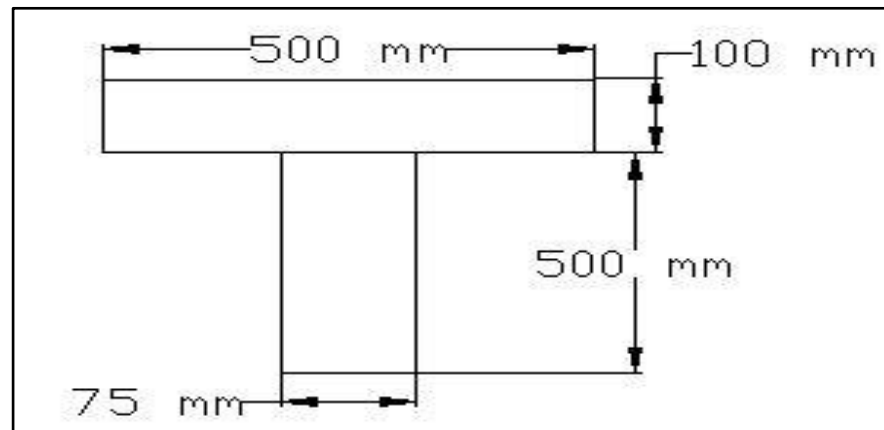

Fig. 1
2. Determine the location of centroid of the area shown in Fig. 1 and also moment of inertia about the centroidal axis.